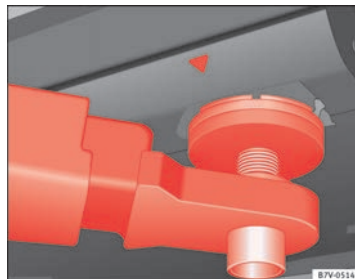
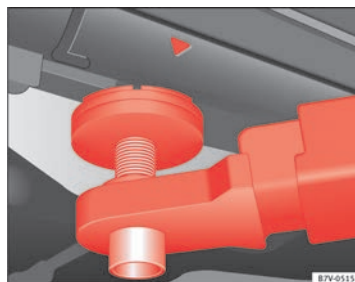

Fig. 163 Front jacking points for raising vehicle with lifting platform or jack
Fig. 164 Rear jacking points for raising vehicle with lifting platform or jack
Always use the jacking points indicated in the figures ⇒ Fig. 163 and ⇒ Fig. 164 when raising the vehicle. If the vehicle is not lifted at these points, it could be seriously damaged ⇒ ⚠ or lead to serious injury ⇒ ⚠. ▶
- Only use the jacking points indicated in the figures → Fig. 163 and → Fig. 164 when raising the vehicle. If the vehicle is not lifted at the indicated points, it may fall from the platform while the engine or gearbox is being dismounted, for example.